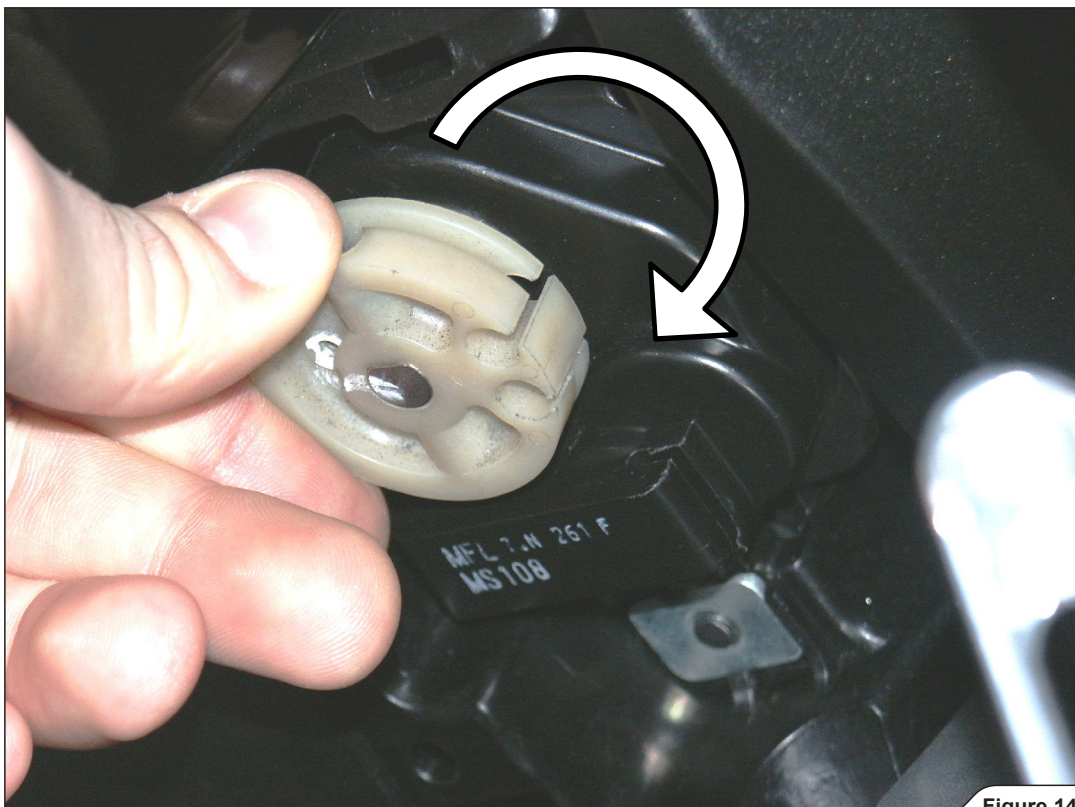

Figure 14
4. Rotate the servo motor (clockwise) by hand in the position in which exhaust valve cable is possible to attach (Figure 14).